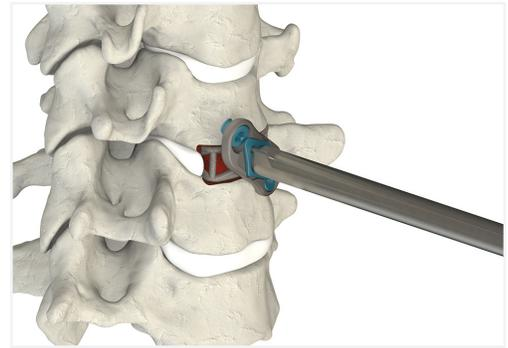

Figure 11
- ▲ Rotate the Anti-Backout Plate using the Integrated Plate Inserter to approximately 30° clockwise to lock the Screws into the Integrated Plate. The wings of the Anti-Backout Plate will stop against the recess on the anterior face of the Integrated Plate (Fig. 11).